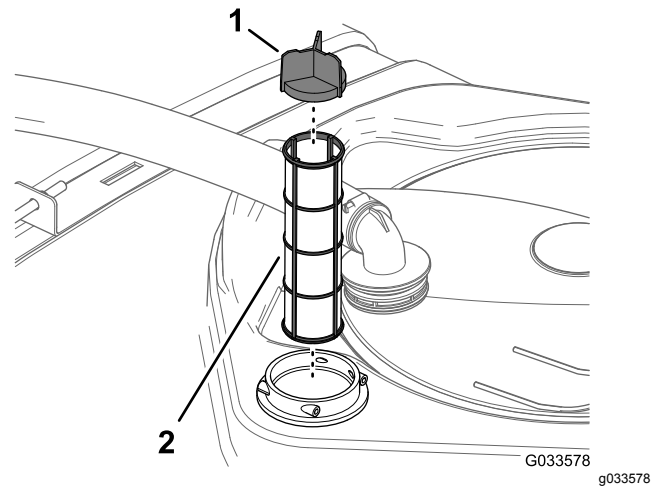

Figure 100
4. Remove the old suction filter from the filter housing in the tank (Figure 100).